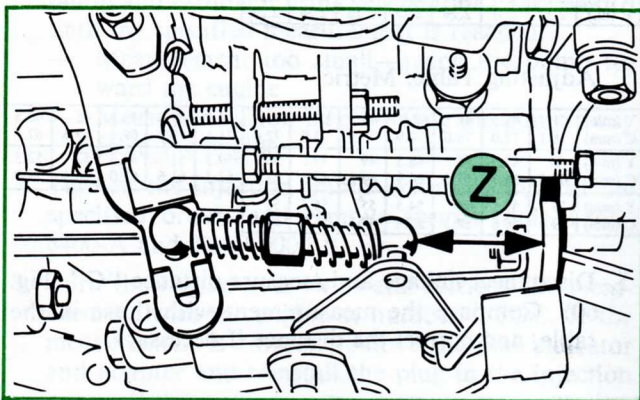

**Figure 61. Operating Lever Setting**
- Check distance "X" (Fig. 61) in the idle position and correct it if necessary. The correct distance for "X" is 2.68 in (68 mm). This is a fixed distance.